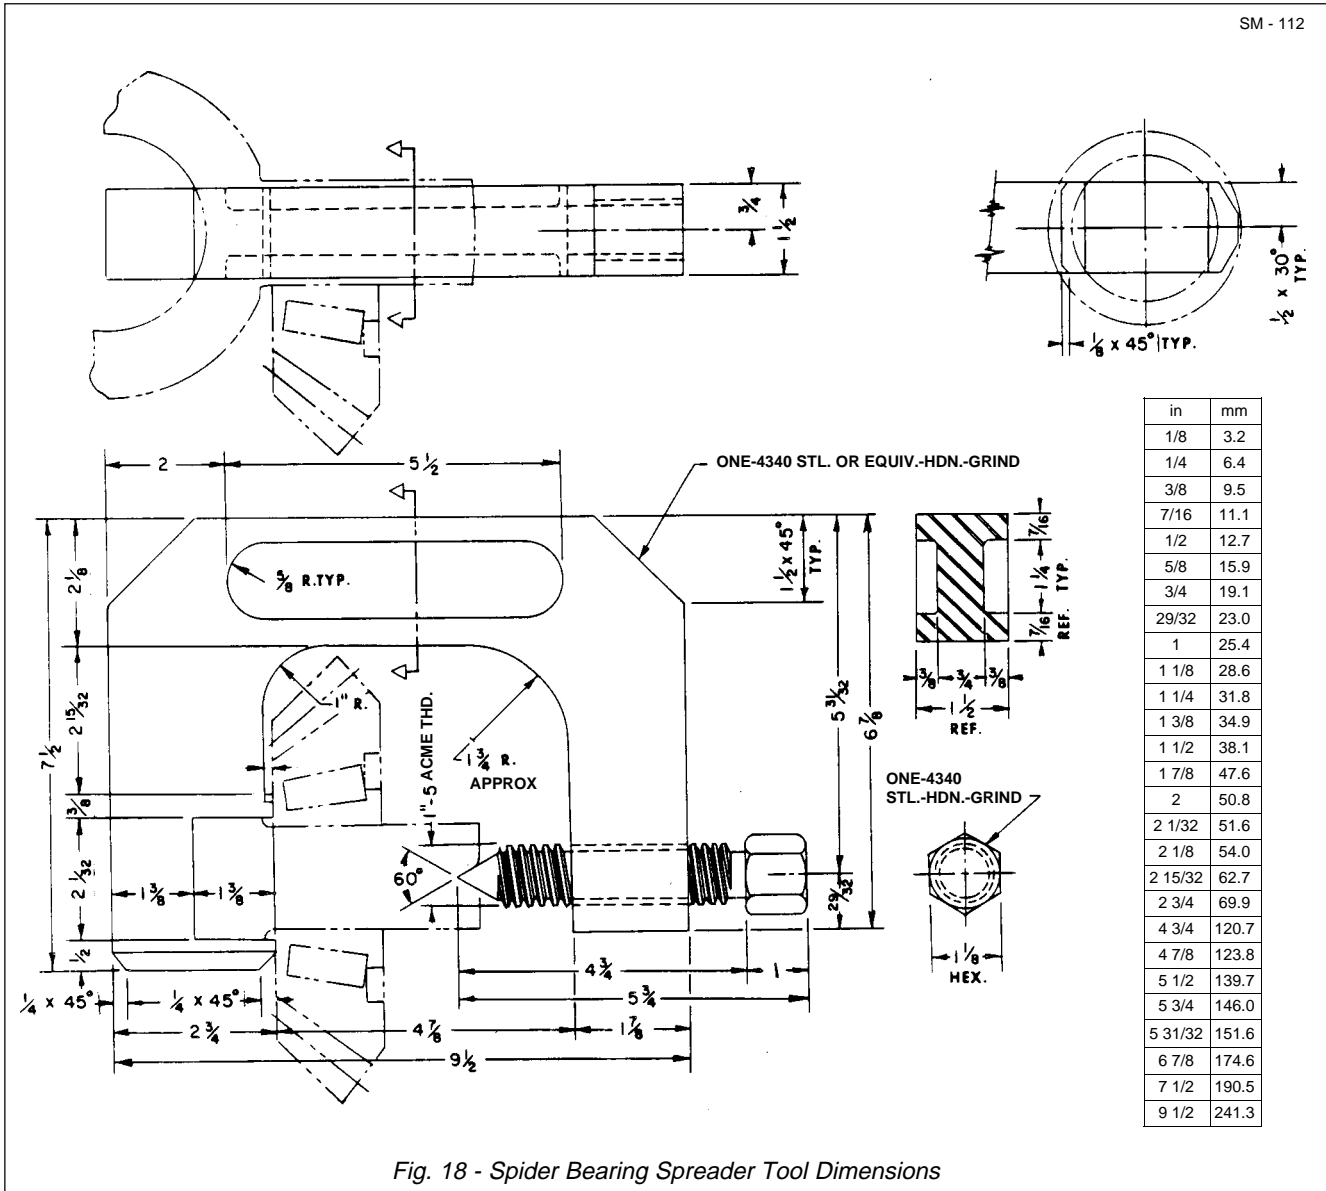

Fig. 18 - Spider Bearing Spreader Tool Dimensions
1. Press thrust washer dowel pins (34) into holes in plain case (39) and flanged case (29), if removed.
2. Lubricate inner walls of flanged case (29) and plain case (39) and all component parts with gear lubricant. Refer to Section 300-0020, LUBRICATION SYSTEM, for proper lubricant.
3. Position one thrust washer (33), grooved side facing towards side gear in bore of flanged case (29).
4. Install first side gear (35) machined surface against thrust washer (33) in flanged case (29).
5. Install bearings (38) in spider pinion gears (37), install bearings and spider pinion gears on spider (36), if removed.
6. Lay complete spider assembly in pinion grooves in face of flanged case (29). Spread bearings (38)
against shoulders of flanged case (29), using the bearing spreader tool shown in Fig. 18.
7. Install other side gear (35) and thrust washer (33), with grooved side of washer mating with machined surface of side gear, in plain case (39).
8. Assemble the plain case (39) to ring gear (31) and flanged case (29) assembly, making certain that thrust washers (33) do not slip off dowel pins (34). Turn plain case (39) until the mating mark scribed during disassembly lines up with the mark scribed on flanged case (29).
9. Apply retaining compound to bolts (40) and install four bolts (40), equally spaced, and tighten to a torque of 271 Nm (200 lbf ft).
10. Check assembly for free gear rotation and correct if necessary. Install remaining bolts (40) and tighten to a torque of 271 Nm (200 lbf ft).
11. Press side bearing cones (28) squarely and firmly over machined cylinders of plain case (39) and flanged case (29).
The spider bearing spreader tool can be fabricated as shown in Fig. 18. Refer to Section 300-0070, SERVICE TOOLS for part numbers of measuring tools and Loctite 5205 sealant referenced in this section and general service tools required. These tools and Loctite 5205 sealant are available from your dealer.